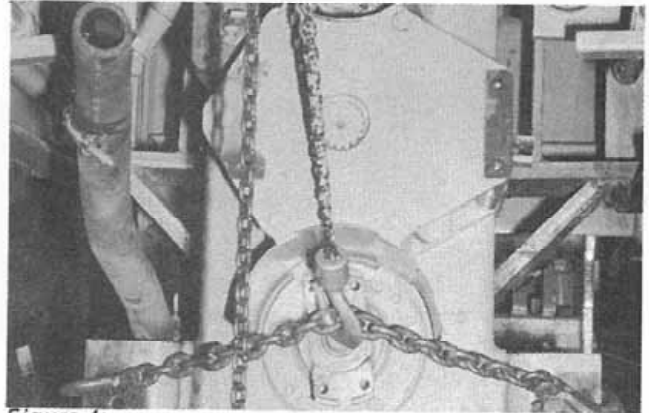

Figure 4:
4. Continue to lift the transfer case with the rear hoist and lower the unit with the front hoist to gradually bring it into a vertical position (Fig. 4).